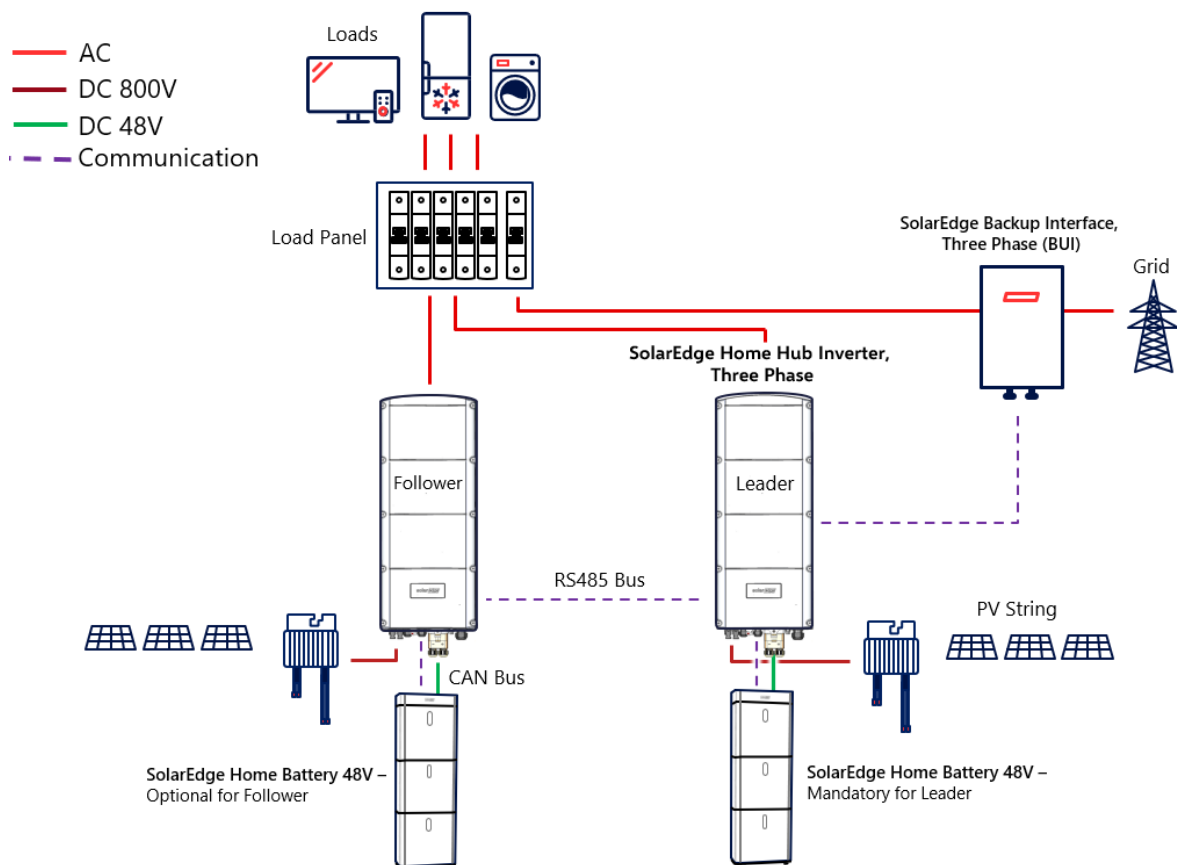

Figure 1 SolarEdge Three Phase Backup Solution
- Version 2 (July 2023) – Change in Figure 1
Figure 1 shows the SolarEdge three phase backup solution.